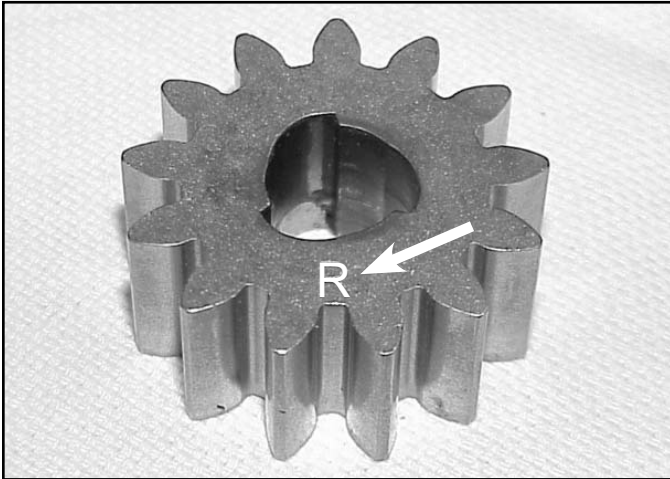

Fig 112
4. The wheel pinion is marked with an R and L for right and left. Identify right and left from the operator's position (Fig. 112). On the right side, the R should face outward. The letter L should face outward on the left side. If the wheel pinions are reversed, the wheels will not drive.